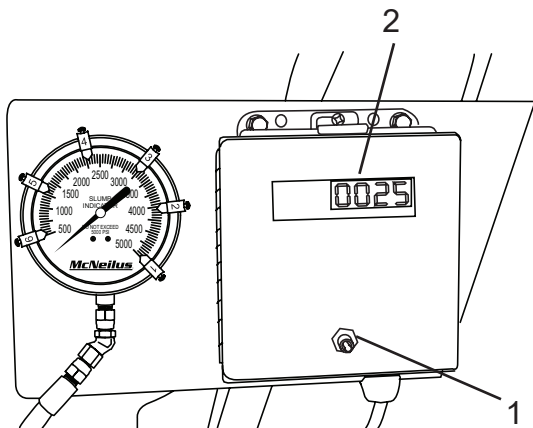

Figure 133
1. Before discharging, press the reset switch (Figure 133, Item 1) to reset the counter display (Figure 133, Item 2).